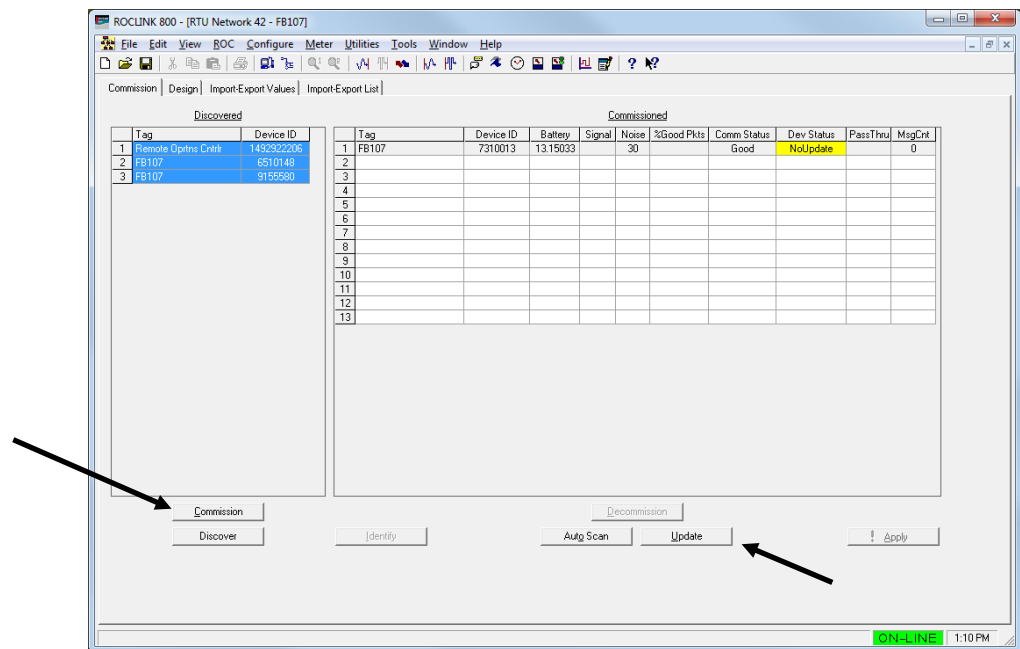

Figure 3-10. Nodes Selected for Commissioning
1. Left-click a device to select it. To select multiple devices, press CTRL and left-click each device. If you are commissioning more than one device, your screen might look like *Figure 3-10*.